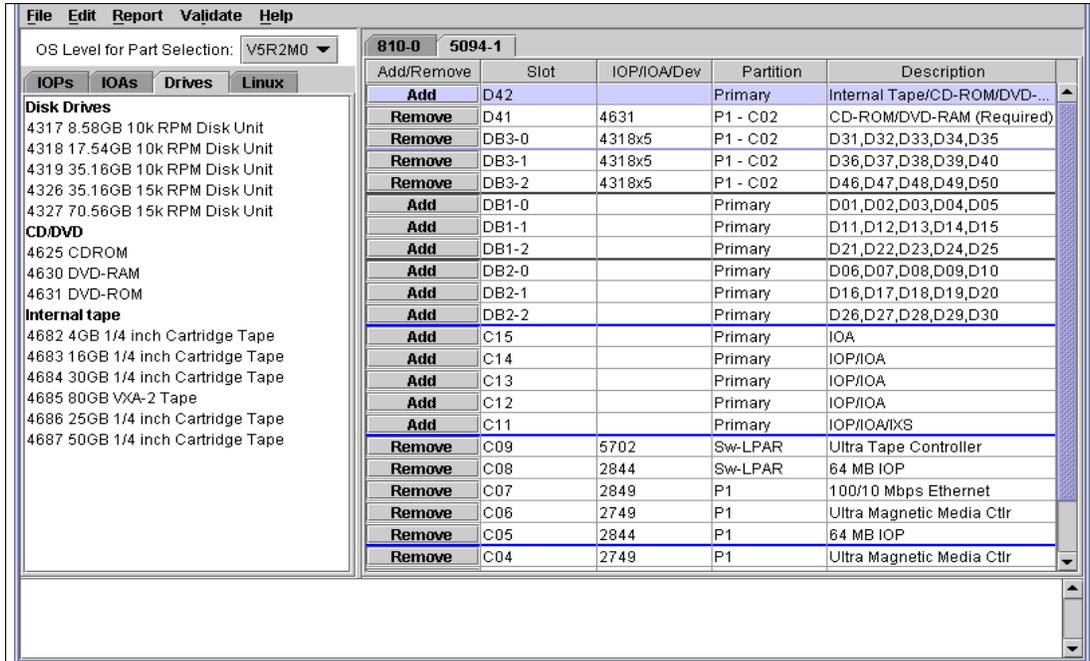

Figure 9-6 Example window features and towers
- d. Select applicable features (IOPs, IOAs, Disk, Towers, etc.). To add a feature first select the **IOP, IOA, Drives or Linux** tabs. Then select the feature and click **Add** next to the desired slot or location (Figure 9-6).